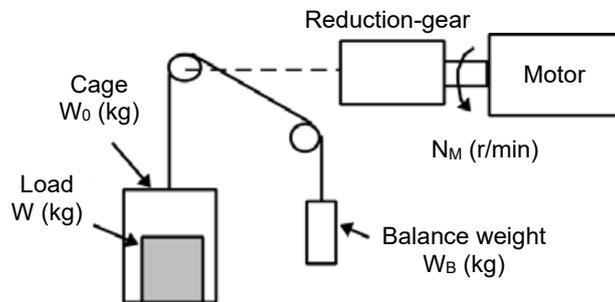
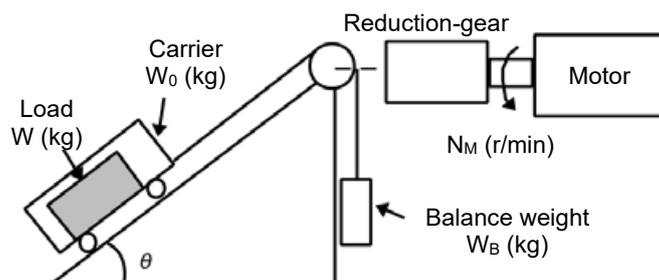

Fig. 10.3-2 Vertical lift load
Fig. 10.3-3 Inclined lift load
A simplified mechanical configuration is assumed as shown in Fig. 10.3-2. If the mass of the cage is W_0 (kg), the load is W (kg), and the balance weight is W_B (kg), then the forces F (N) required for lifting the load up and down are expressed as follows (equation (Equation 10.3-5 and equation (Equation 10.3-6).
Although the mechanical configuration of an inclined lift load is similar to that of a vertical lift load, non negligible friction force in the inclined lift makes the difference; in an inclined lift load, there is a distinct difference between the expression to calculate the lift force F (N) for lifting and that for lowering. If the incline angle is θ , and the friction coefficient is μ , as shown in Fig. 10.3-3, the driving force F (N) is expressed as follows:
The moment of inertia J ($\text{kg} \cdot \text{m}^2$) of the loads connected with a rope as shown in Fig. 10.3-2 and Fig. 10.3-3 is calculated with the following equation ((Equation 10.3-14) using the mass of all moving objects, although the motion directions of those loads are different.